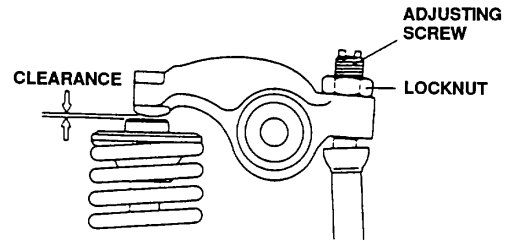

Figure 4-35. Adjusting Valve Clearance
- e. Insert screwdriver into adjusting bolt and loosen locknut using wrench. Refer to Figure 4-35.